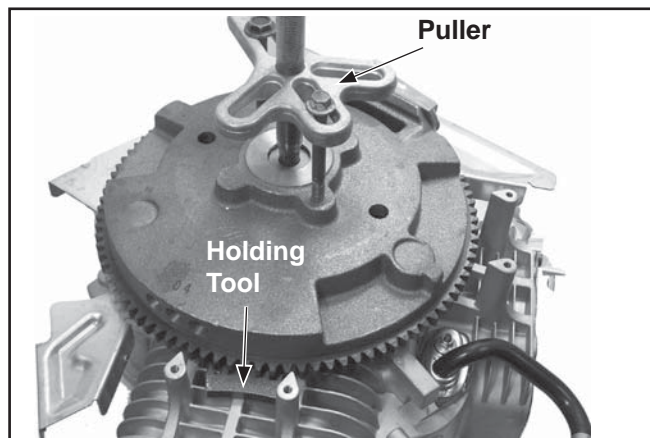

**Figure 8-36. Removing Fan and Flywheel Mounting Hardware.**
2. Remove the retaining screw, washer, and the fan mounting plate, securing the fan and flywheel to the crankshaft. See Figure 8-36.